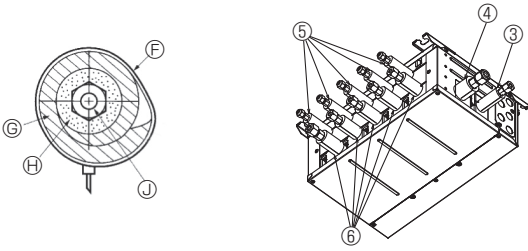
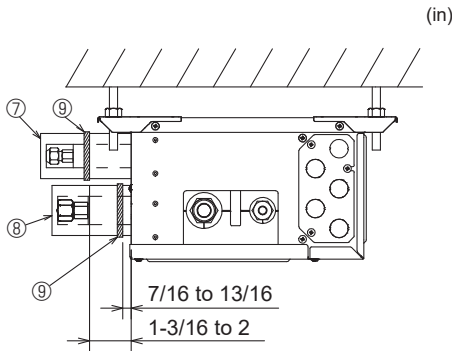

Fig. 7-3
Fig. 7-4
- Insulate the liquid and gas pipes of the branch box by attaching the heat-resistant polyethylene foam tightly around them. (Fig. 7-3)
- (5) Press the pipe covers ③ and ⑤ on the liquid piping against the unit and wrap to hold in place. (Fig. 7-3)
- (6) Press the pipe covers ④ and ⑥ on the gas piping against the unit and wrap to hold in place. (Fig. 7-3)
- (7) Apply the supplied bands ⑨ at a position 7/16-13/16 in (10 - 20 mm) from each end of the pipe covers (③④⑤⑥).
- (8) If the indoor unit is not connected, fit the supplied pipe covers (with caps, ⑦ and ⑧) to the branch box refrigerant piping connections against the unit to prevent condensation dripping from the pipes. (Fig. 7-4)
- (9) Clamp the pipe covers (⑦⑧) in place with the supplied bands ⑨.
- ③ Band (3.1. Accessories No. ③)
- ④ Pipe covers (3.1. Accessories No. ③④⑤⑥)
- ⑦ Thermal insulation for refrigerant piping
- ⑧ Refrigerant piping
7.2. Handling of ports that are not connected to outdoor unit (Fig. 7-4)